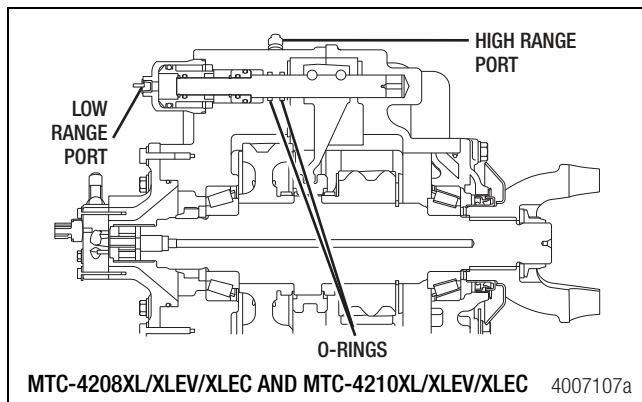

Figure 7.31
1. Grease all o-ring seals. Use a light coat of lithium-based grease, Meritor specification O-668. Refer to Figure 7.31 for shifter component arrangement.